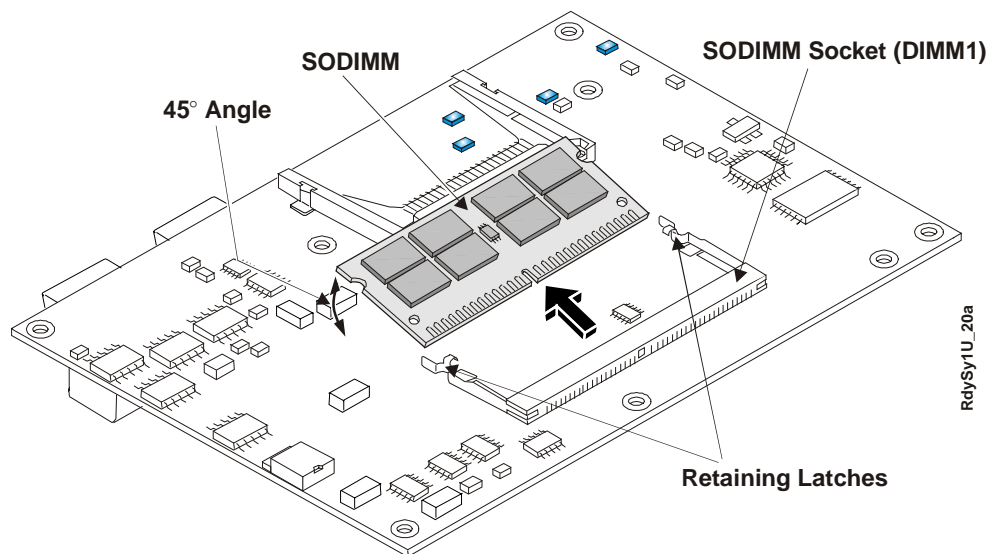

Figure 2-13. Removing SODIMM from Socket
7. Turn over the ReadyBoard model for access to the bottom of the board while laying it on a flat anti-static surface. See Figure 2-13.
8. Locate the SODIMM socket (DIMM1) on the bottom of the ReadyBoard model. See Figure 2-13.
9. Open both retaining latches to release the SODIMM from the socket. See Figure 2-13.
10. Using the card edges, lift the SODIMM completely away from the socket. See Figure 2-13.